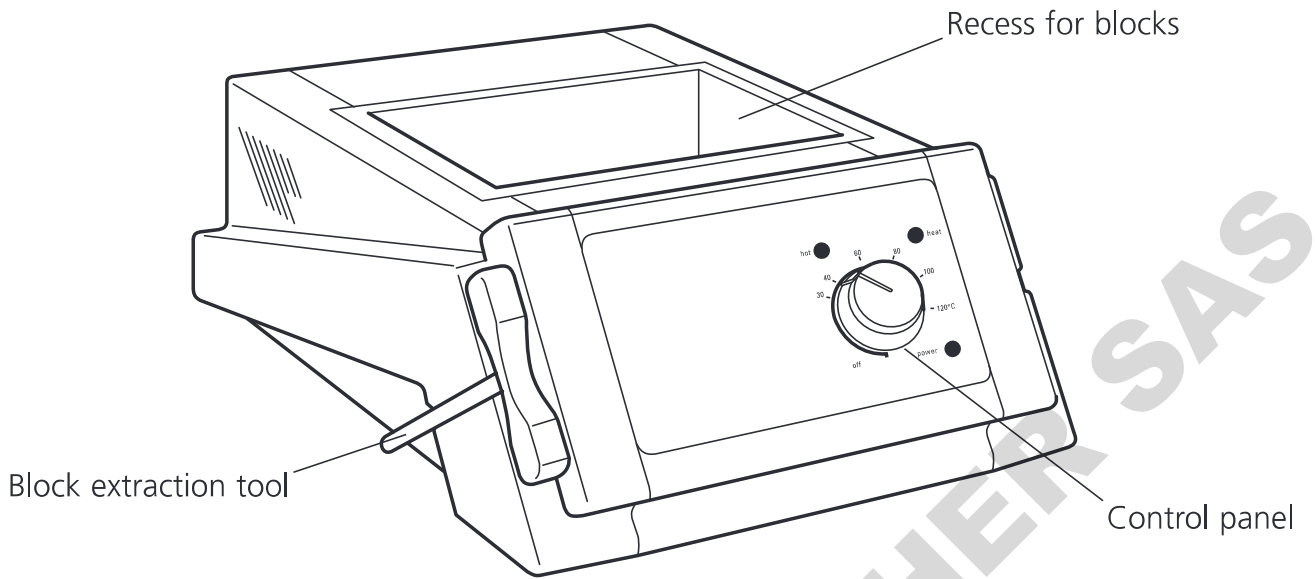

Figure 1: Front view
The blocks are fitted into the recess in the top of the instrument (see figure 1) and heated from below. All blocks are fully interchangeable and blocks for different sizes of container may be used in a block heater at the same time.
3. Carefully place the appropriate number of aluminium blocks into the recess in the top of the instrument – see figure 1.
5. Fit safety cover if required. This may simply rest on the top of the block heater or be hinged by using the screws provided. These should be located in the holes at the top rear of the block heater (see figure 1).